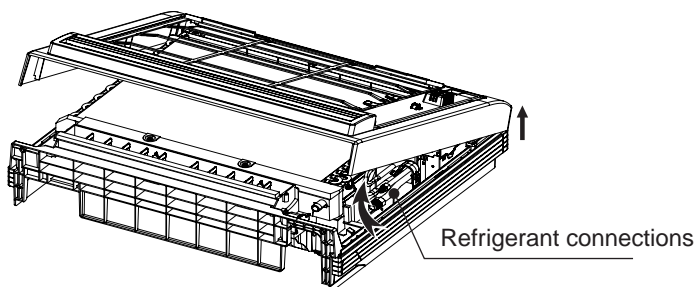

Figure 3.1.3
- 3) Lift frontal panel by about 30° (see Figure 3.1.3); now it is possible to remove it from back side of Indoor Unit.
- 4) The position of Indoor Unit's refrigerant piping connections is shown in Figure 3.1.3.